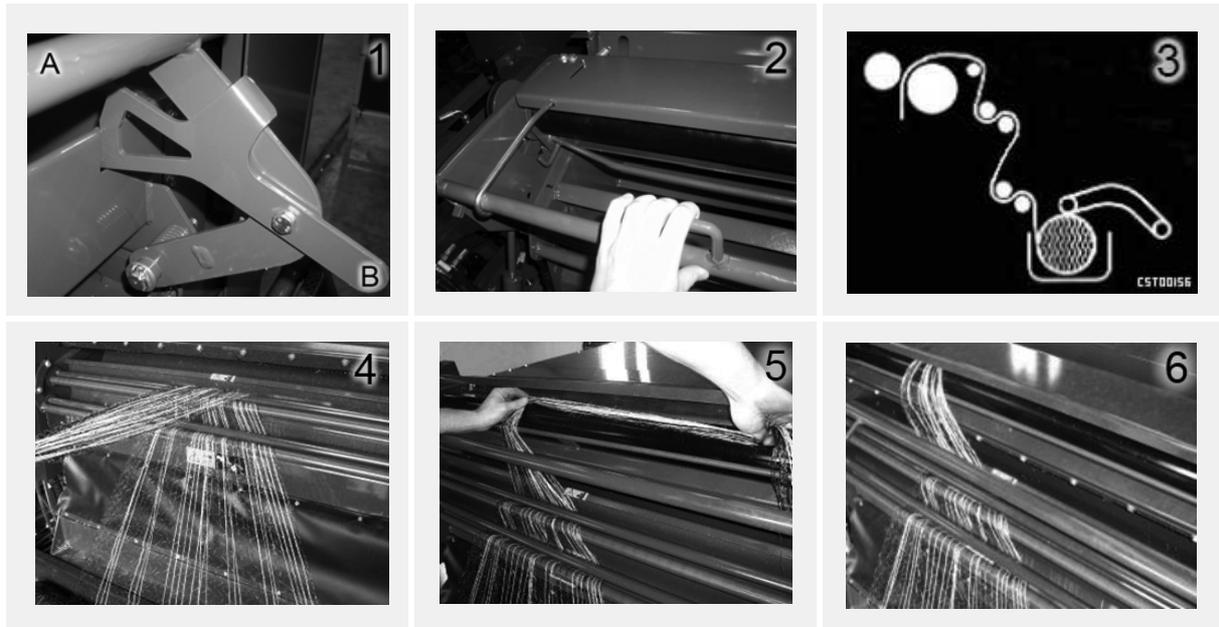

Figure 6.a - Adjustable position
In an automatic cycle, the netter starts feeding net once the set bale density has been reached and the cutter is tripped; the bale is then wrapped with the predetermined net length. The net length can be adjusted at the net cutter drive on the left hand side, see Figure 6.e. It is recommended that a minimum of two (2) layers of net are applied to the bale. Dry conditions and very high densities require up to four (4) or more layers to ensure a good bale shape.